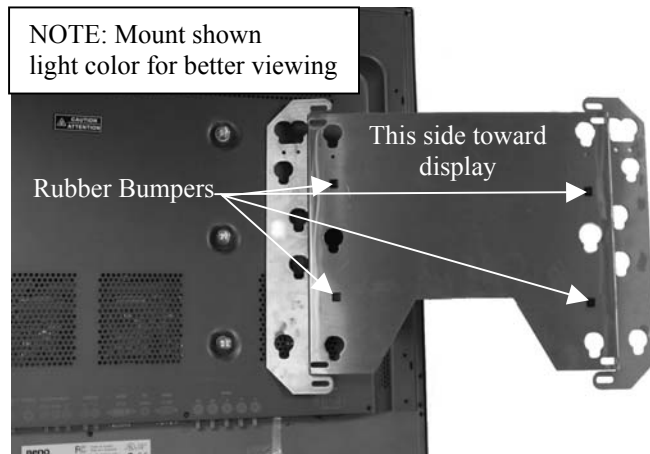

Figure 4
3. Install four rubber bumpers as shown in Figure 4.